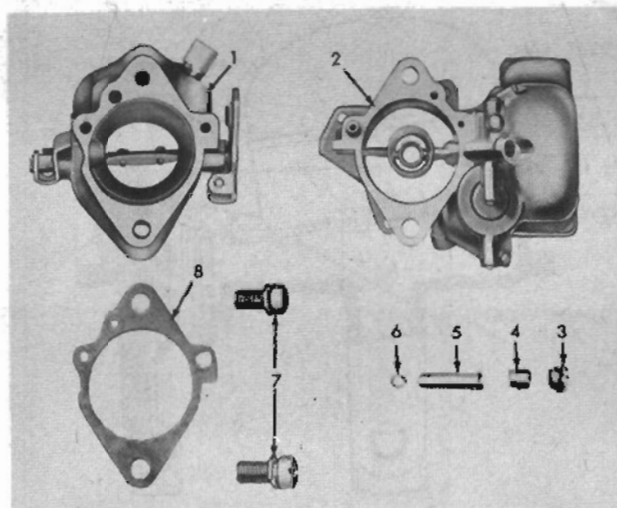

FIG. 32
Throttle Body—Remove the two screws (7, Fig. 32) which hold the main carburetor body (2) to the throttle body (1) and separate the two pieces. Remove the throttle body gasket (8). Using Jet Wrench J-816-6, remove the main discharge nozzle passage plug (3). Remove the main discharge nozzle retainer plug (4) using Jet Wrench J-816-2. To remove the main discharge nozzle (5), use Jet Extractor J-508. Be sure to remove the small copper gasket (6) which fits around the seat of the nozzle.
Throttle Body—Place a new copper gasket (6, Fig. 32) on the main discharge nozzle (5) and install the nozzle with the flat at the end of the nozzle up. Using Jet Wrench J-816-2, install the main discharge retainer plug (4). The main discharge nozzle passage plug (3) can then be installed with Jet Wrench J-816-6. After installing a new gasket (8), attach the main carburetor body (2) to the throttle body (1) with the two screws and lock washers (7). Next, install the idle adjusting screw and spring in the throttle body.